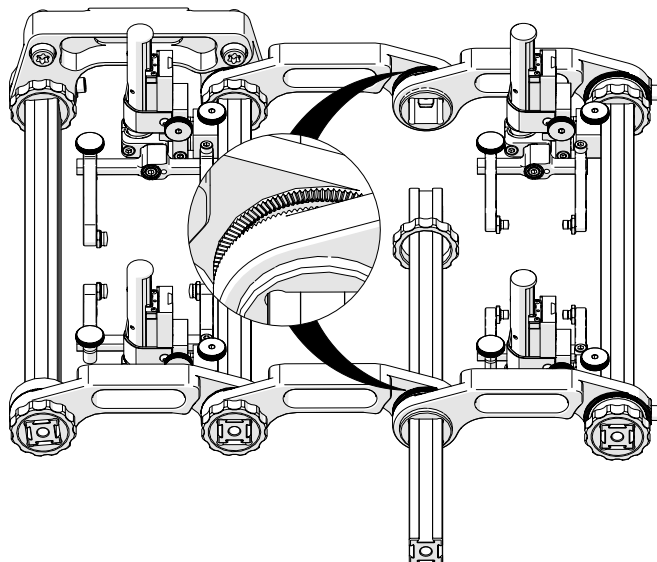

Fig. 146 - Mount probe holder frame
8. Mount the probe holder frame and take care to ensure the teeth align correctly (*Fig. 146*).